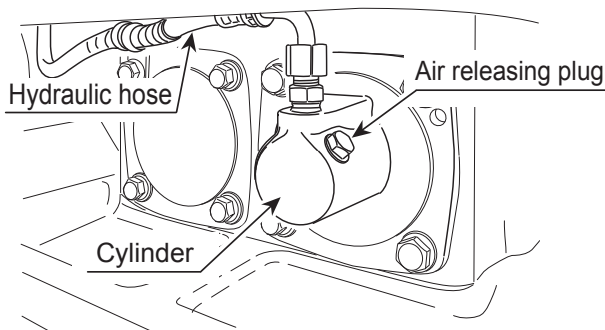

Figure 31. Removing Hydraulic Hose
3. Remove the hydraulic hose connected to the cylinder on the vibrator side (Figure 31).
9. Remove the air releasing plug of vibrator cylinder. Oil will then come out from the air releasing plug. After air bubbles stop coming out, reattach the plug. Tighten securely (Figure 31).